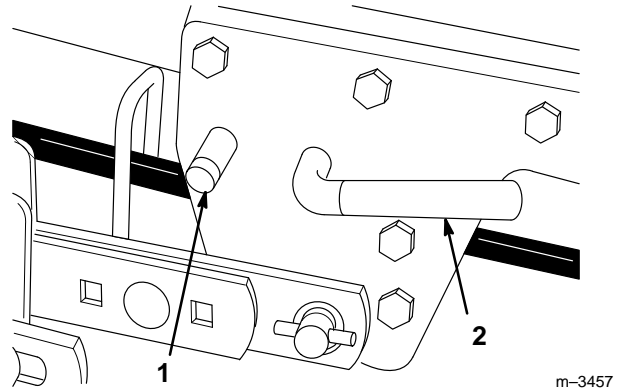

Figure 22
- 9. Press the button of the mid Attach-A-Matic™ and twist the lever clockwise to release the mower (Fig. 22).